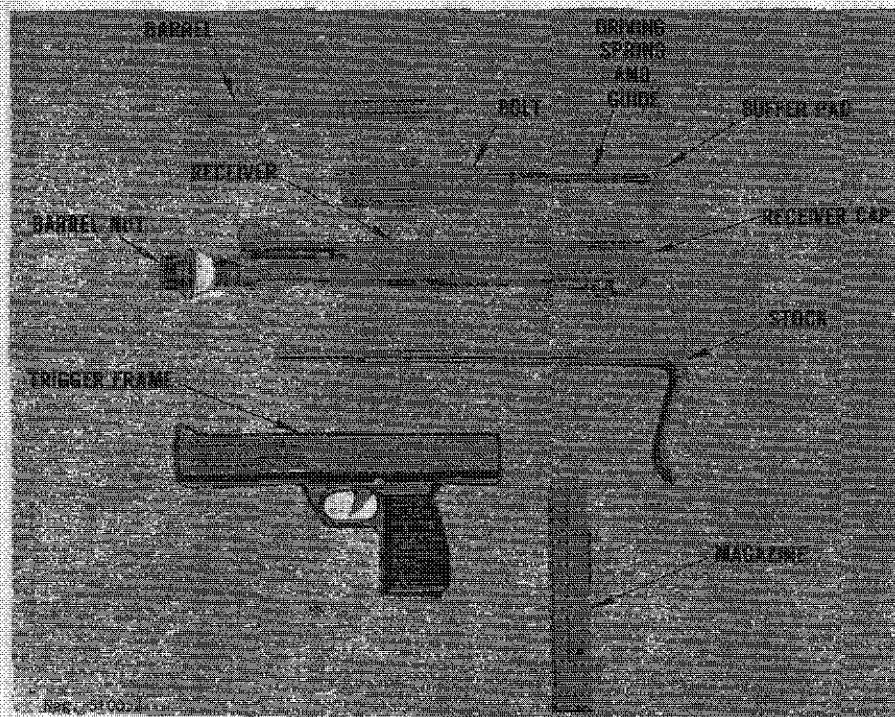

Figure 53. MPI Steyr 69 disassembled.
b. Press in the rounded end of the driving spring guide where it protrudes through the receiver cap (fig 52). Swing the receiver cap upward to open the rear of the receiver. Grasp the sides of the buffer pad (fig 53) and withdraw the bolt, buffer, and driving-spring unit.
e. Remove the trigger frame assembly (fig 53) by gently tapping it forward on the receiver until the rear of the trigger frame can be pulled away from the receiver and separated. **DO NOT USE EXCESSIVE FORCE.** The trigger frame fits tightly on the receiver, but it can be removed with minimum force.
g. Insert the bolt unit into the receiver, driving spring to the left top. Point the muzzle down and press the trigger; the bolt will slide home. Press in the driving spring guide head (fig 53) and swing the receiver cap over the opening at the rear of the receiver. Insure that the driving spring guide head seats in the hole in the receiver cap.